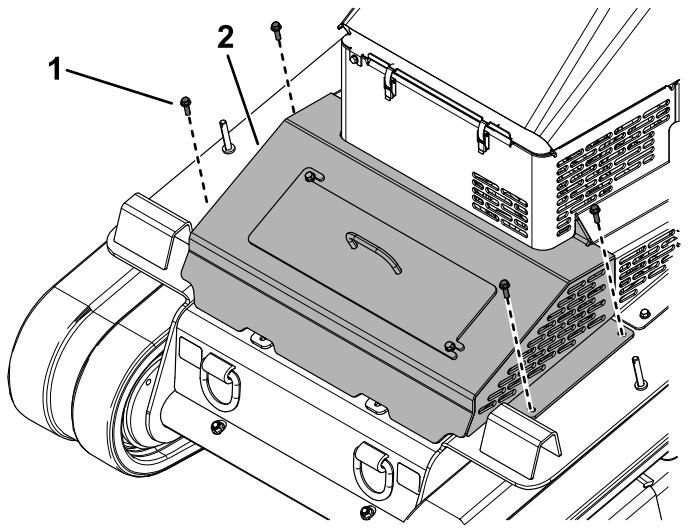

**Figure 38**
2. Loosen the 2 bolts securing the front cover to the machine (Figure 38).